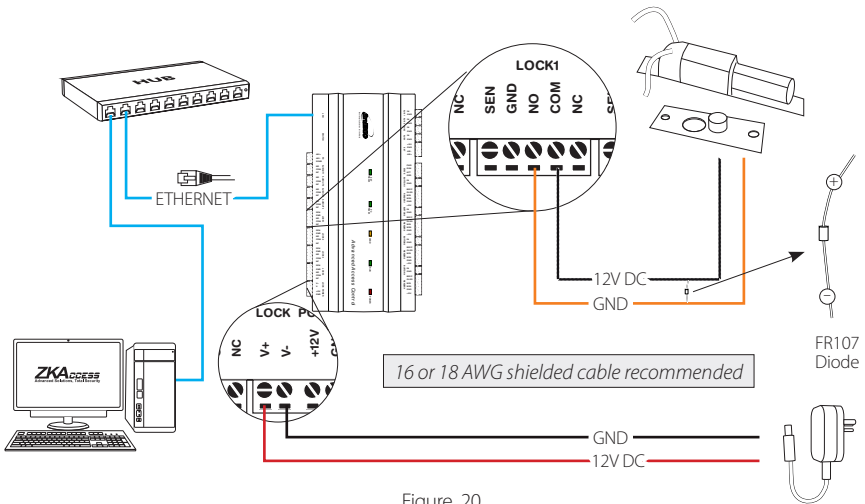

Figure 20
1. Take apart the cover of inBio Panel. Push the tab inward (see figure 20)